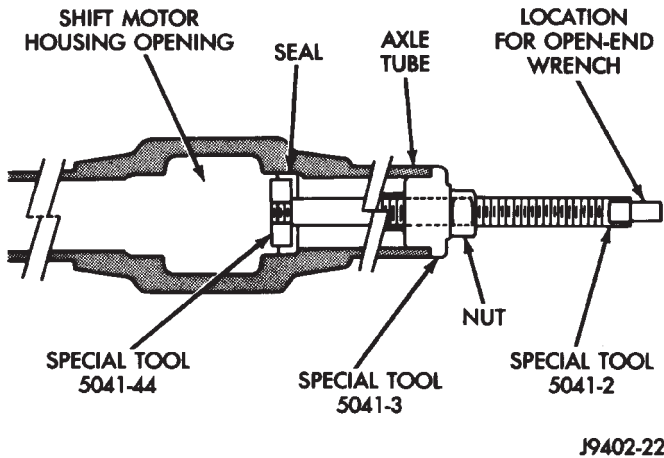
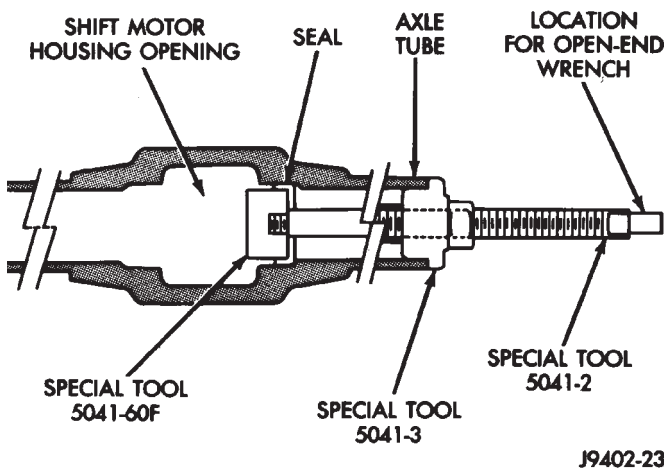

Fig. 41 Inner Axle Seal Installation—216 FBI Axle
Fig. 42 Inner Axle Seal Installation—248 FBI Axle
(2) Clean the inside perimeter of the axle shaft tube with fine crocus cloth.
(3) Apply a light film of oil to the inside lip of the new axle shaft seal.
(4) Install the inner axle seal (Fig. 41) or (Fig. 42).